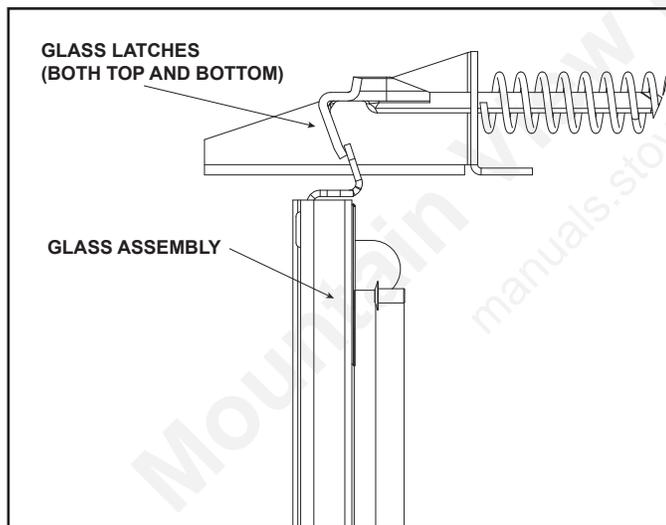

Figure 12.1 Fixed Glass Assembly
8. Remove the glass assembly from the firebox by releasing the two top glass latches and then the two bottom glass latches. See Figure 12.1.
15. Replace the glass assembly on the appliance. Latch the two bottom glass assembly latches and then the two top glass latches. See Figure 12.1.
- Remove the glass assembly from the firebox by releasing the two top glass latches and then the two bottom glass latches. Hold glass in place with one hand and disengage glass latches with the other hand. Remove glass assembly from the appliance. See Figure 12.1.
- Place the glass assembly on the appliance. Latch the two bottom glass assembly latches and then the two top glass latches. Hold glass in place with one hand and secure glass latches with the other hand. See Figure 12.1.